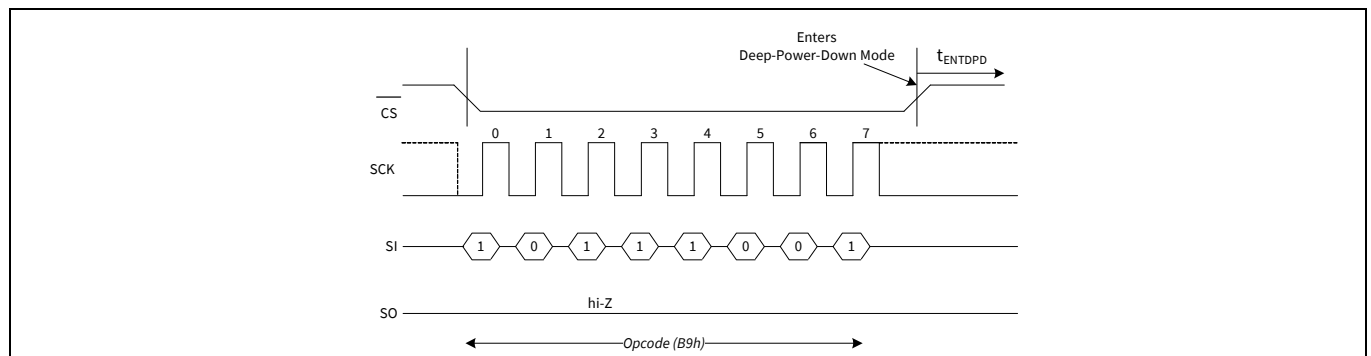
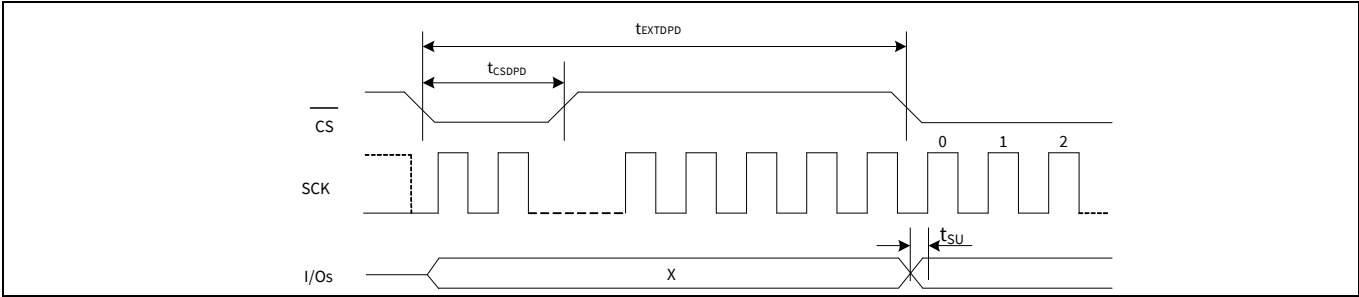

Figure 100 DPD entry in SPI mode
Figure 103 DPD exit in SPI mode
A \overline{CS} pulse-width of t_{CSDPD} or hardware reset exits the DPD mode after t_{EXTDPD} time. The \overline{CS} pulse-width can be generated either by sending a dummy command cycle or toggling \overline{CS} alone while SCK and I/Os are don't care. The I/Os remain in hi-Z state during the wakeup from deep power down. Refer to **Figure 100** for DPD entry and **Figure 103** for DPD exit timing.
- The timing details shown in the **Figure 100** are applicable as is in DPI and QPI modes.